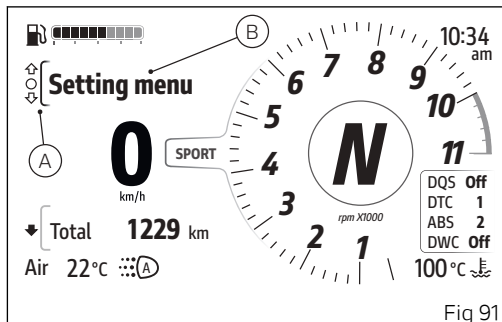

Fig 91
- Select the Interactive Menu (A, Fig 91) by pressing and holding button (1) pressed for a long time.
- Use buttons (1) and (2) to select item "Setting menu" (B, Fig 91) and press the ENTER button (3).